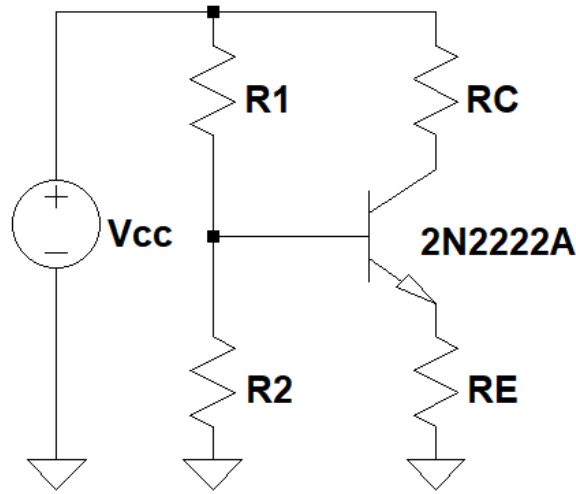

Figure 2 DC circuit for common emitter amplifier
1. Connect the circuit as shown in Figure 2.